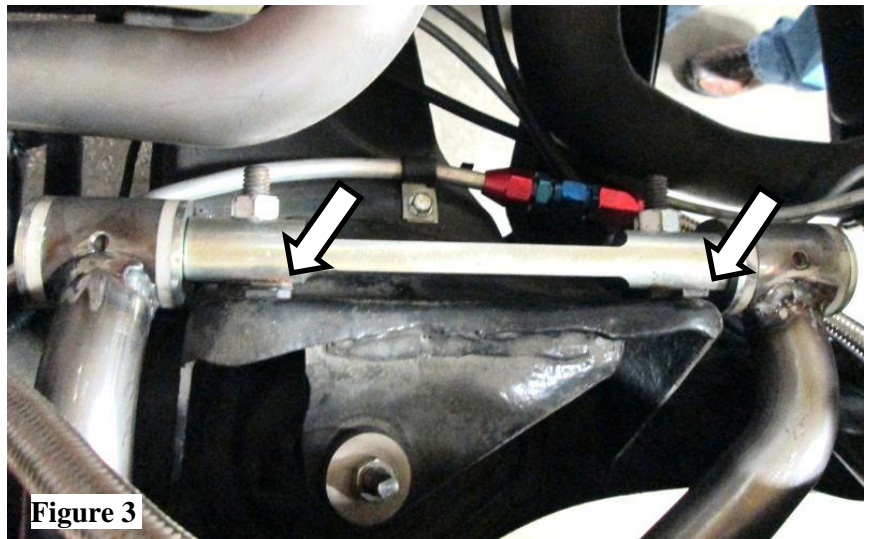

Figure 3
- Note the position of the shims on the cross shaft. Remove the nuts on the cross-shaft and remove the upper control arm from the car. See **Figure 3**.